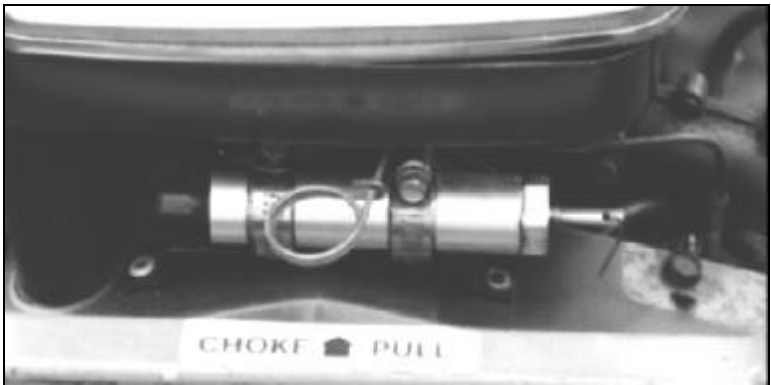

Fig 6-2-3 Speed Control Actuator Cylinder Adjustment
- a. release the "**HOLD 30 LPM CONTROL LINK**" (located on the Speed Control Actuator) to allow the automatic throttle to control the engine speed during start-up (Fig 6-2-3). **Important:** Failure to release the "**HOLD 30 LPM CONTROL LINK**" during start-up causes the engine to speed up too quickly before warming. This damages the engine and the hydraulic pump;